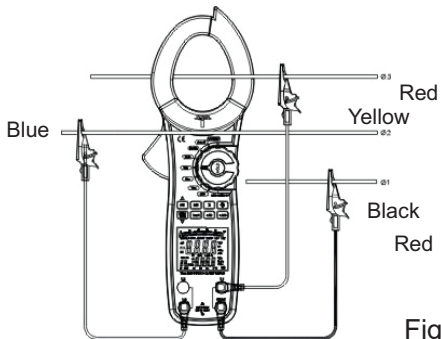

Figure 15
- When measuring 3 phase 3 wires, Hold **SEL** for 5 seconds and the Meter shows ~~303W~~, press **SEL** again for 5 seconds to exit 3 phase 3 wires, connecting the Meter as figure 15.
In figure 15  $\Sigma W = W2 + W3$ .